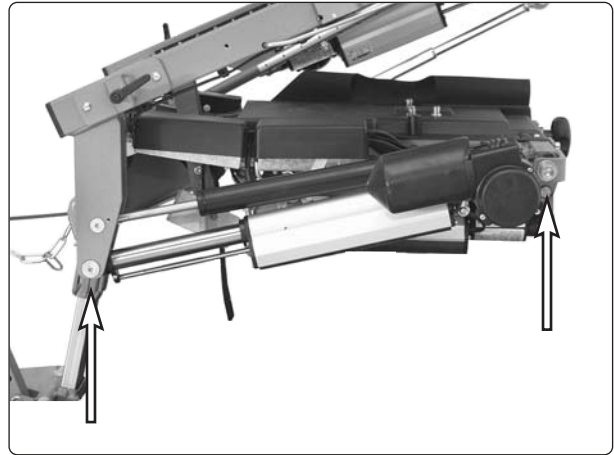

*Fig. 87. The actuator's electrical connections.*
5. Loosen the two terminals from the actuator, see Fig. 87. Take note of its location for purposes of later remounting.